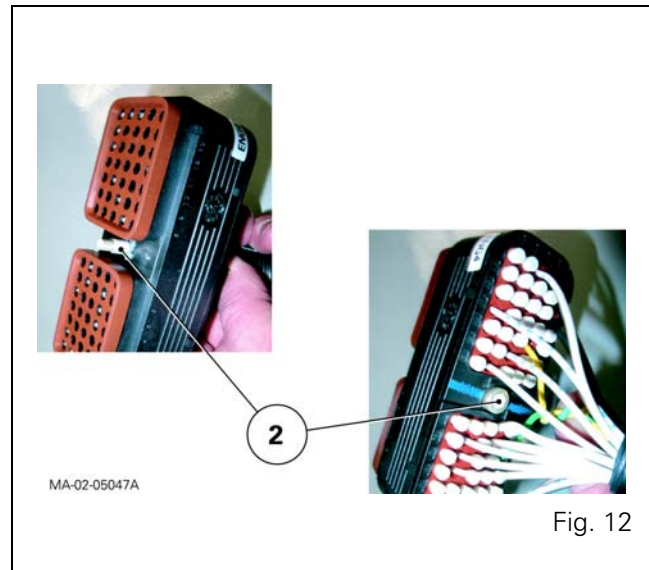

Fig. 12
- screw (2) of connector (1) on main wiring harness (Fig. 6 and Fig. 12) 2.82 to 3.15 Nm